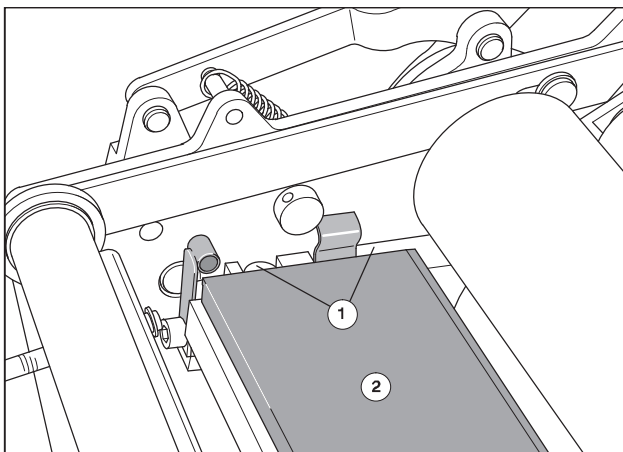

Fig. 16 Ink fountain
1. Insert the ink fountain cheeks in the groove (Fig. 16/1) on both sides of the ink fountain blade (Fig. 16/2). They are held in position by spring pressure.